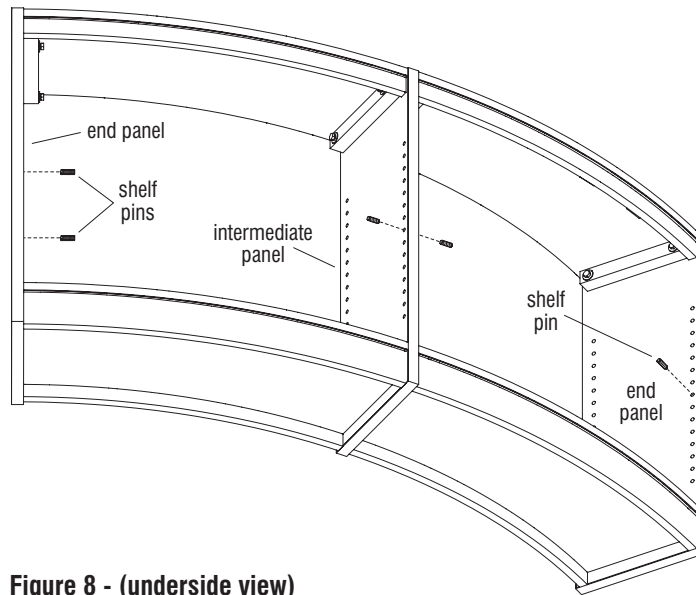

Figure 8 - (underside view)
12. Determine the desired height of the internal shelf. Insert three shelf pins, in the mounting hole locations on the end and intermediate panels at the desired shelf height (Figure 8 & Detail J).